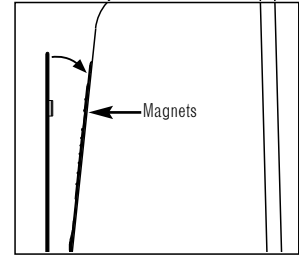

Figure 2.
2. Let the magnets draw the top of the grille against the driver trim area, as shown in the side view in Figure 2.